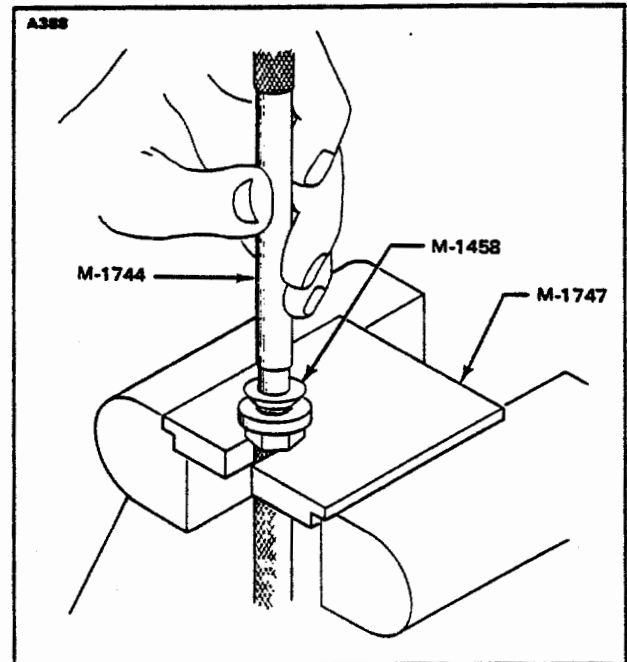

Figure 8-28. Driving Tool
- j. For spark plug end, mount M-1747 Drive Plate in a bench vise. Set the hex ferrule in the slot of the drive plate. Drive the M-1458 Drive Ferrule flush against the hex ferrule using the M-1744 Drive Tool. Refer to Figure 8-28.